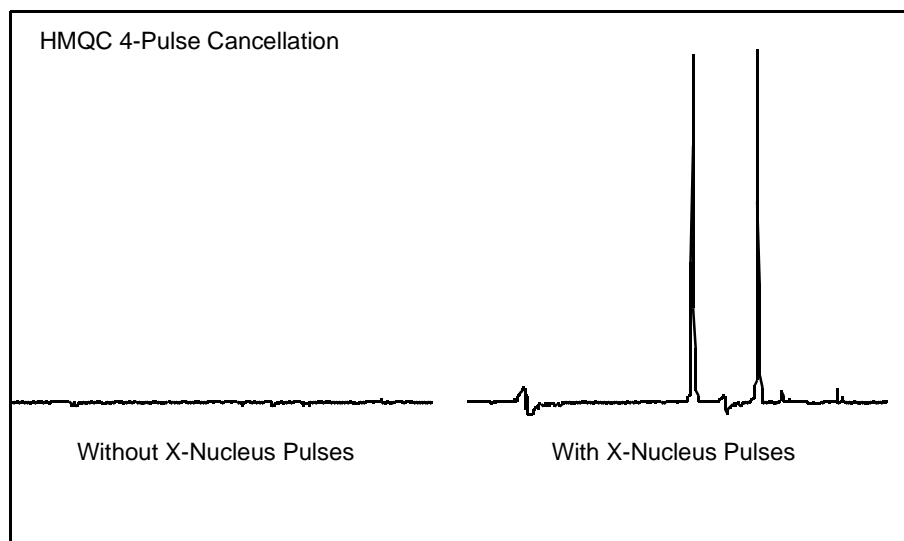
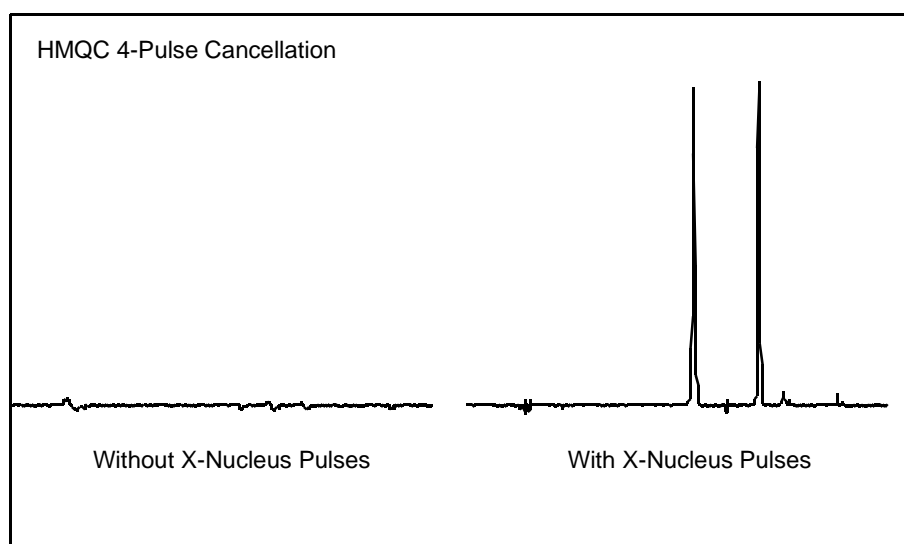

Figure 49. HMQC 4-Pulse Cancellation without ^2H Bandpass Filter
Figure 50. HMQC 4-Pulse Cancellation with ^2H Bandpass Filter
7. Check cancellation. Set `nt=4 d1=10 ss=1` and array `pwx` with the 0° and 90° pulse widths. The two spectra that result should show no signal in the first case and ^{13}C satellites only in the second case. If the cancellation is worse when the X-nucleus pulses are present, as in Figure 49, this is an almost certain indication of a lock interference problem. The spectrum in Figure 49 was performed without a ^2H band-pass filter on the lock channel. Compare it to the spectrum in Figure 50, a repeat of the same experiment with a ^2H band-pass filter.